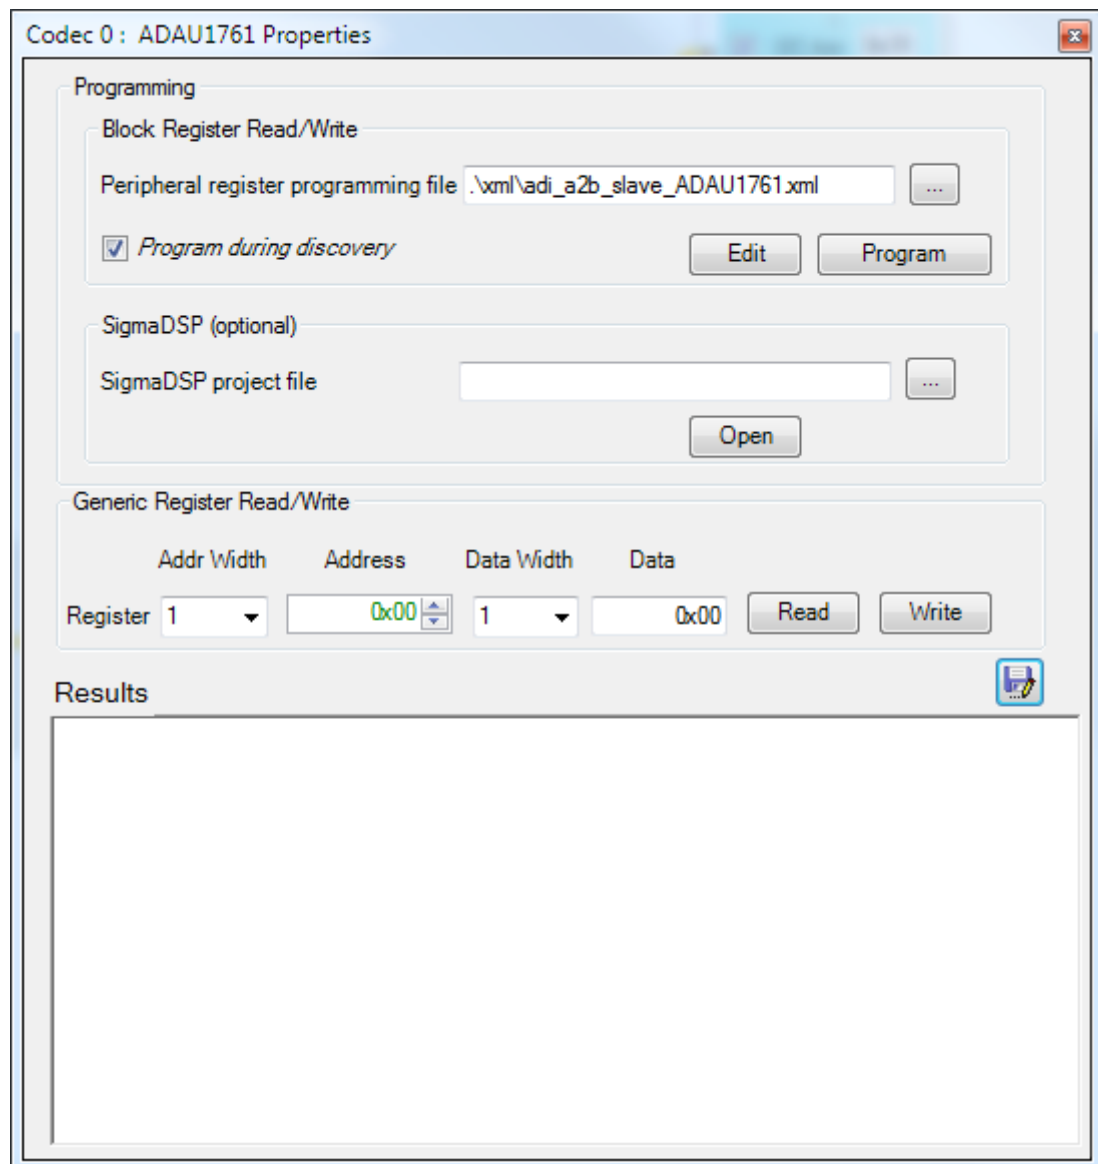

Figure 12: Programming file for ADAU1761 connected to a slave node
2. Make sure that .xml files are provided for programming SigmaDSPs (ADAU1361 and ADAU1452) on master and slave A2B evaluation boards as shown in Figure 12. This window can be accessed by Right-clicking on a peripheral and selecting 'Peripheral Properties'. By checking 'Program during discovery' option the connected peripherals are programmed during the discovery process.